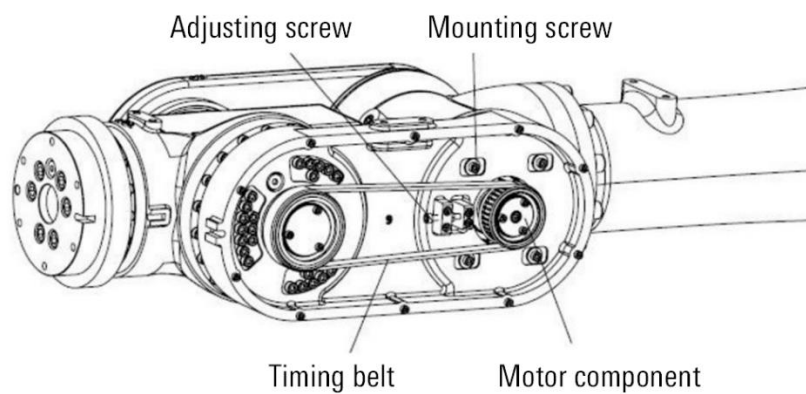
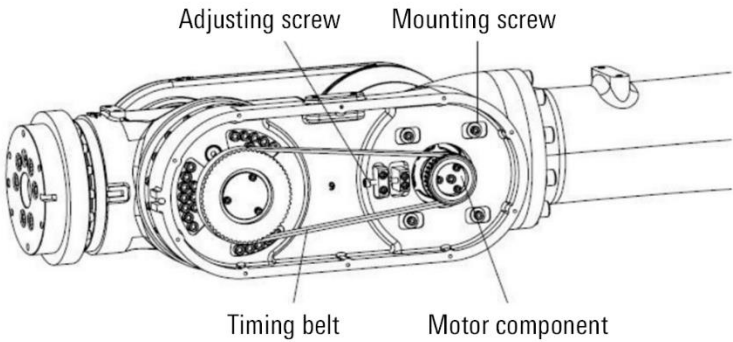
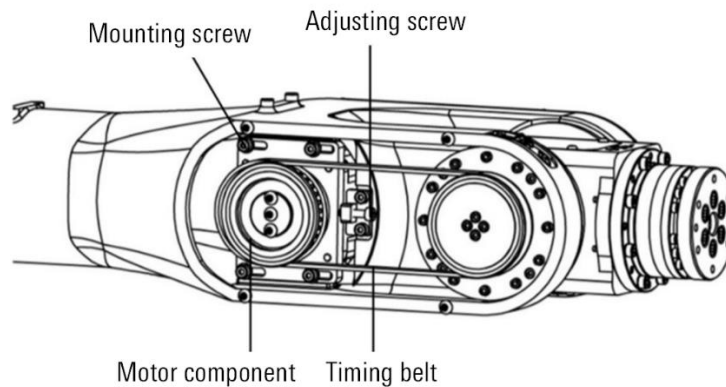

Figure 12-20 AIR50-2260/AIR50-2700 removing synchronous belt
Figure 12-22 AIR80-2260/AIR80-2560 removing synchronous belt
Figure 12-24 AIR35-2700/AIR20-3100 removing synchronous belt
- Step5. Remove four M4 screws from the motor base (AIR35-2700/AIR20-3100 has four M4 screws), as shown in Figure 12-20 (or Figure 12-22, or Figure 12-24).